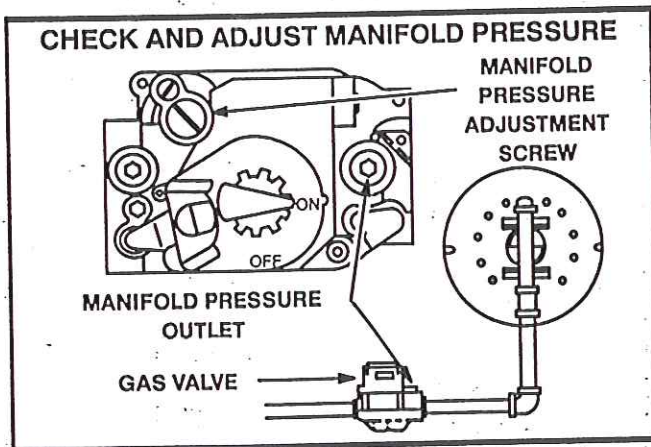

FIGURE 22
- 2- After line pressure has been checked and adjusted, check manifold pressure. Refer to figure 22 for proper location to measure manifold pressure and location of adjustment screw. Correct manifold pressures are shown in table 5.